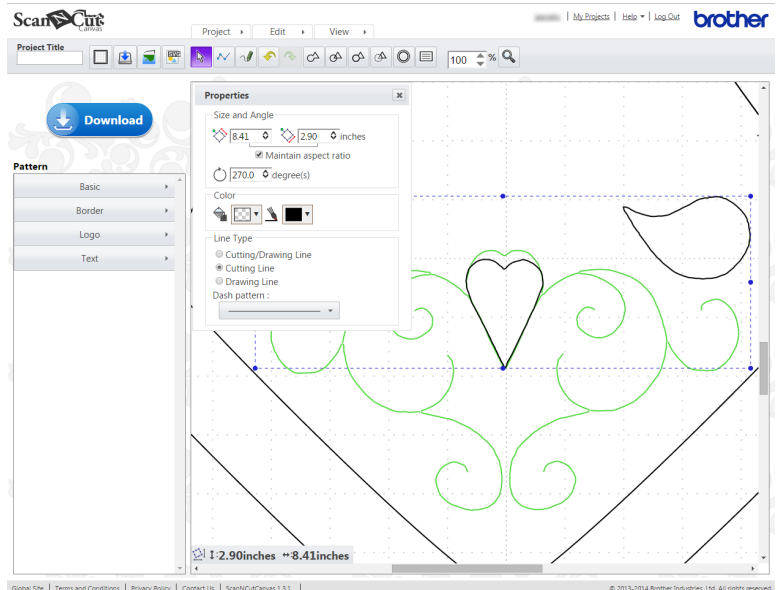

Figure 13
- k. Click and drag the element into place on top of the matching drawing element. Zoom in as necessary to line everything up. (Fig. 13)